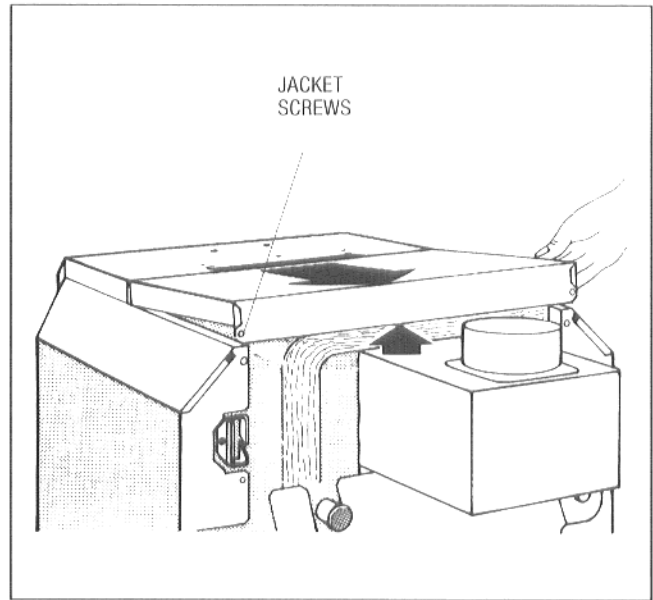

Fig.1: Removing the rear boiler hood fastening screws
- Remove the jacket screws from the top of the boiler (Fig. 1).